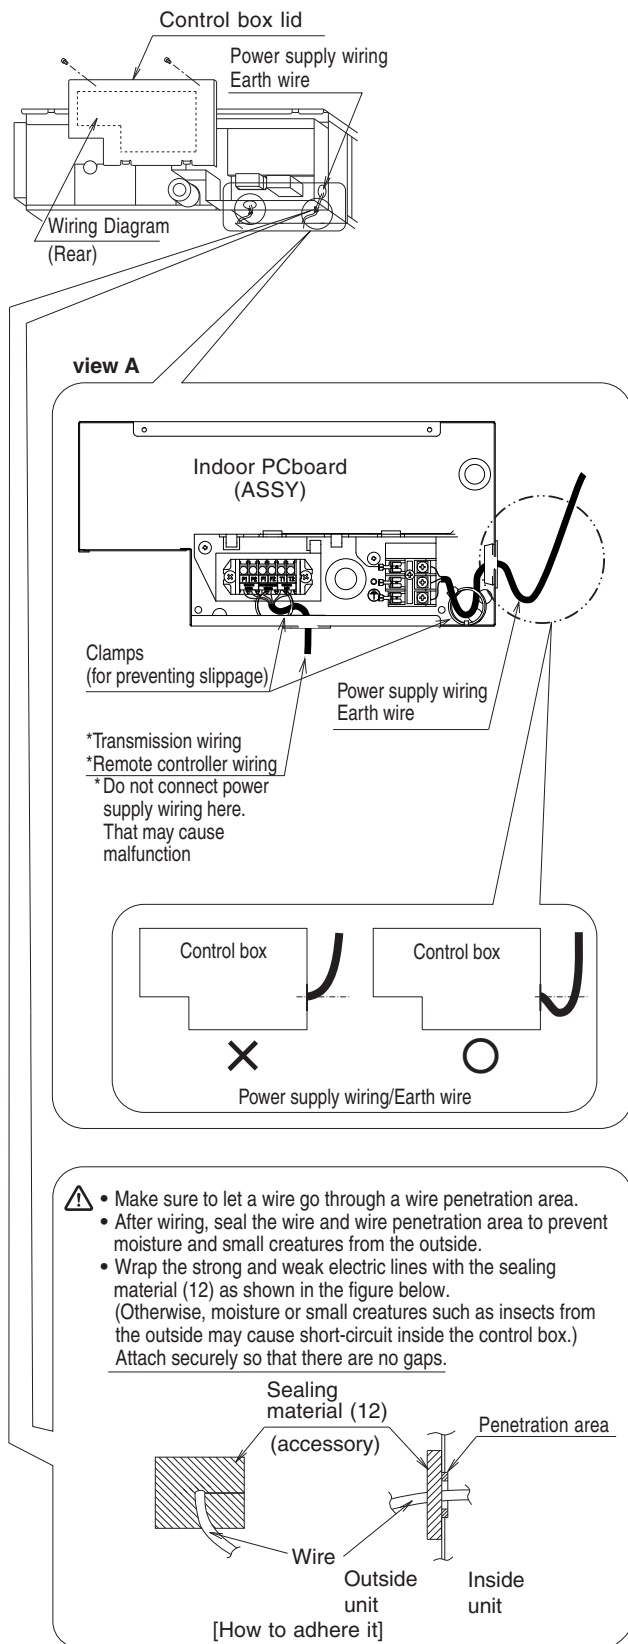

Fig. 17
Securely clamp the cables with the clamps (9)(10) offered as accessories as shown in Fig. 17 so that tension will not be applied on the cable connection areas.
- Wire only after removing the control box lid as shown in Fig. 17, referring to view A.